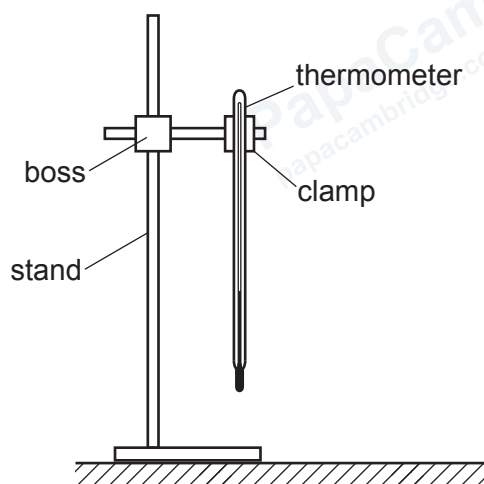

Figure 3.1
- a clamp, boss and stand to enable the supervisor to set up the apparatus as shown in Figure 3.1
The apparatus is set up for each candidate as shown in Figure 3.1, with the beaker placed at one side of the apparatus. A fresh supply of hot water will be required.